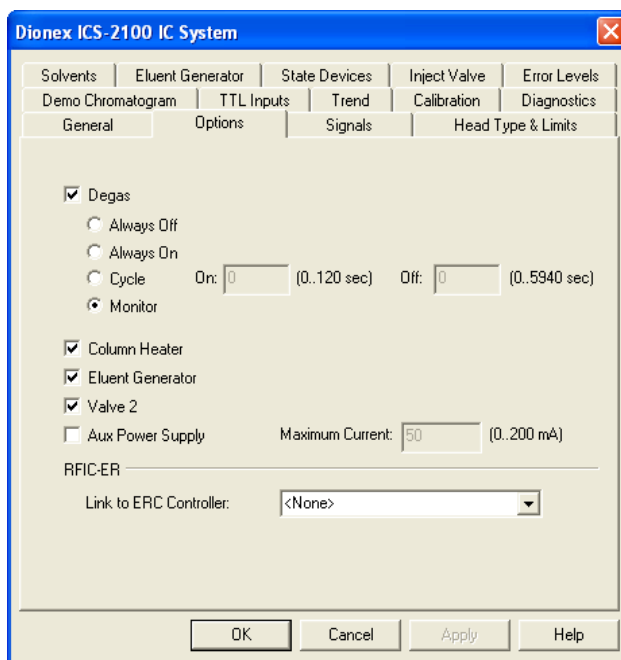

Figure 4-3. ICS-2100 Server Configuration Properties: Options
2. Select the **Options** tab (see Figure 4-3).